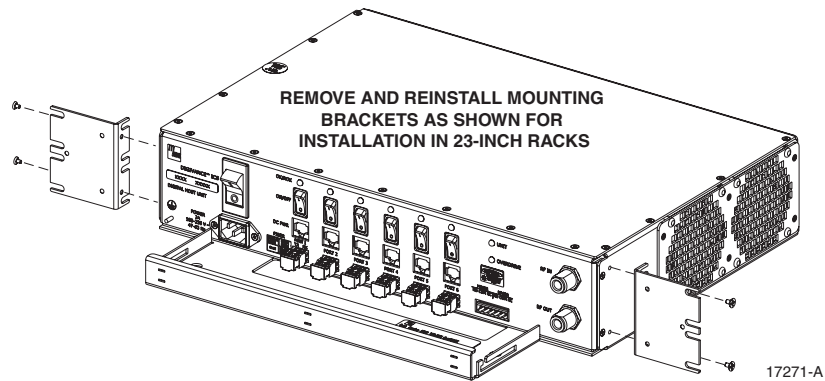

Figure 14. Installing the Mounting Brackets for 23-Inch Rack Installations
3. Reinstall both mounting brackets so the long side of the bracket is flush with the DHU front panel as shown in Figure 14. Use the screws removed in step 2 to re-attach the brackets to the DHU enclosure.